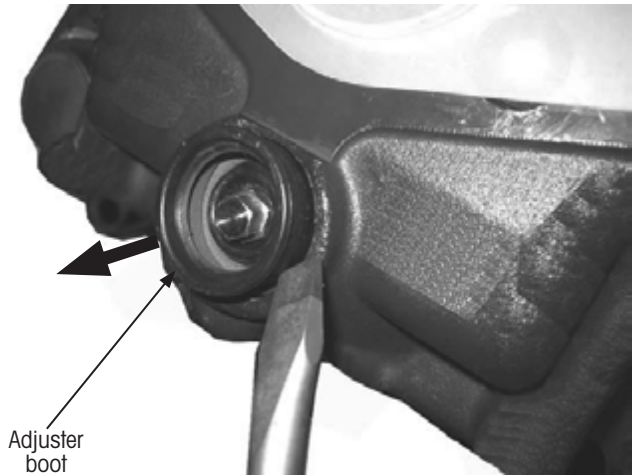

Figure 80: Removing adjuster boot
2. **Use** a suitable tool (e.g. screwdriver) to remove the adjuster boot (Figure 80) out of the brake caliper seat.